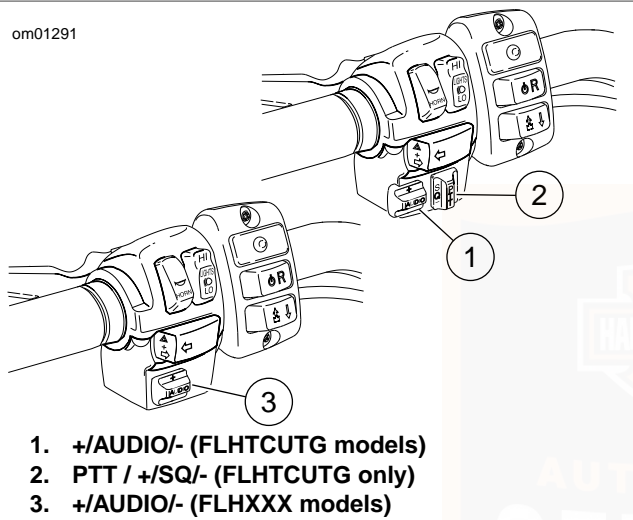

Figure 26. LH Audio Controls
2. **Transmitting:** Press and hold either the rider PTT switch (Figure 26) or passenger PTT switch (Figure 33) to transmit. To end transmission, release **PTT** switch.
3. **Transmitting:** Press and hold either the rider PTT switch (Figure 26) or passenger PTT switch (Figure 33) to transmit. To end transmission, release **PTT** switch.
See Figure 26. Easy to operate while riding, audio controls are mounted on the left hand switch housing on the left handgrip. The left hand audio controls are a **+AUDIO/-** and a **PTT +/SQ/-** switch.
AUDIO: See Figure 26. Press the **AUDIO** switch to access the Audio/Setup menu on the LCD. Press and release **AUDIO** or the press the soft key to toggle to the next displayed function in sequence from Bass, to Treble, to Fade, to Display, to Volume and then to AVC.
See Figure 26. Push-To-Talk (**PTT**) and the squelch control switch (**+SQ/-**) is located on the left handlebar switch assembly.